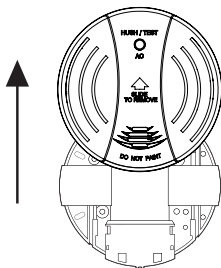

Figure 2: To remove smoke alarm, slide smoke alarm carefully away from the base plate to remove the smoke alarm.
- To replace battery, remove alarm from mounting base (see Figure 2) and remove the battery from compartment. Replace the old battery with a new one.